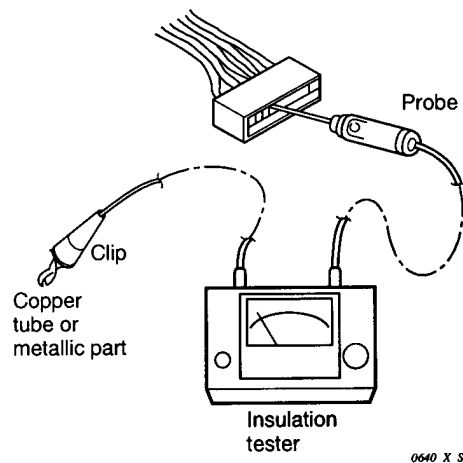

Fig. 7
- Disconnect the connector of the desired electric part from terminal plate, P.C.B. Ass'y, etc. (Fig. 7)